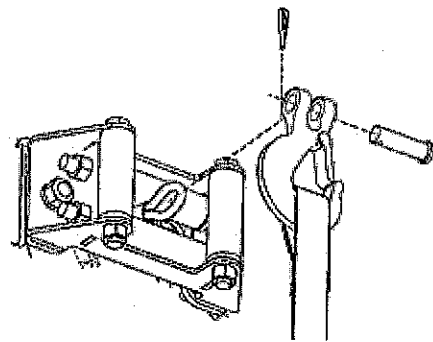

Figure 14
14. The winch rope unwinds off the top of the drum for this mounting configuration. Route the winch rope through the fairlead and attach the hook assembly from the warn winch kit using the pin and cotter provided. See Figures 14 and 15.